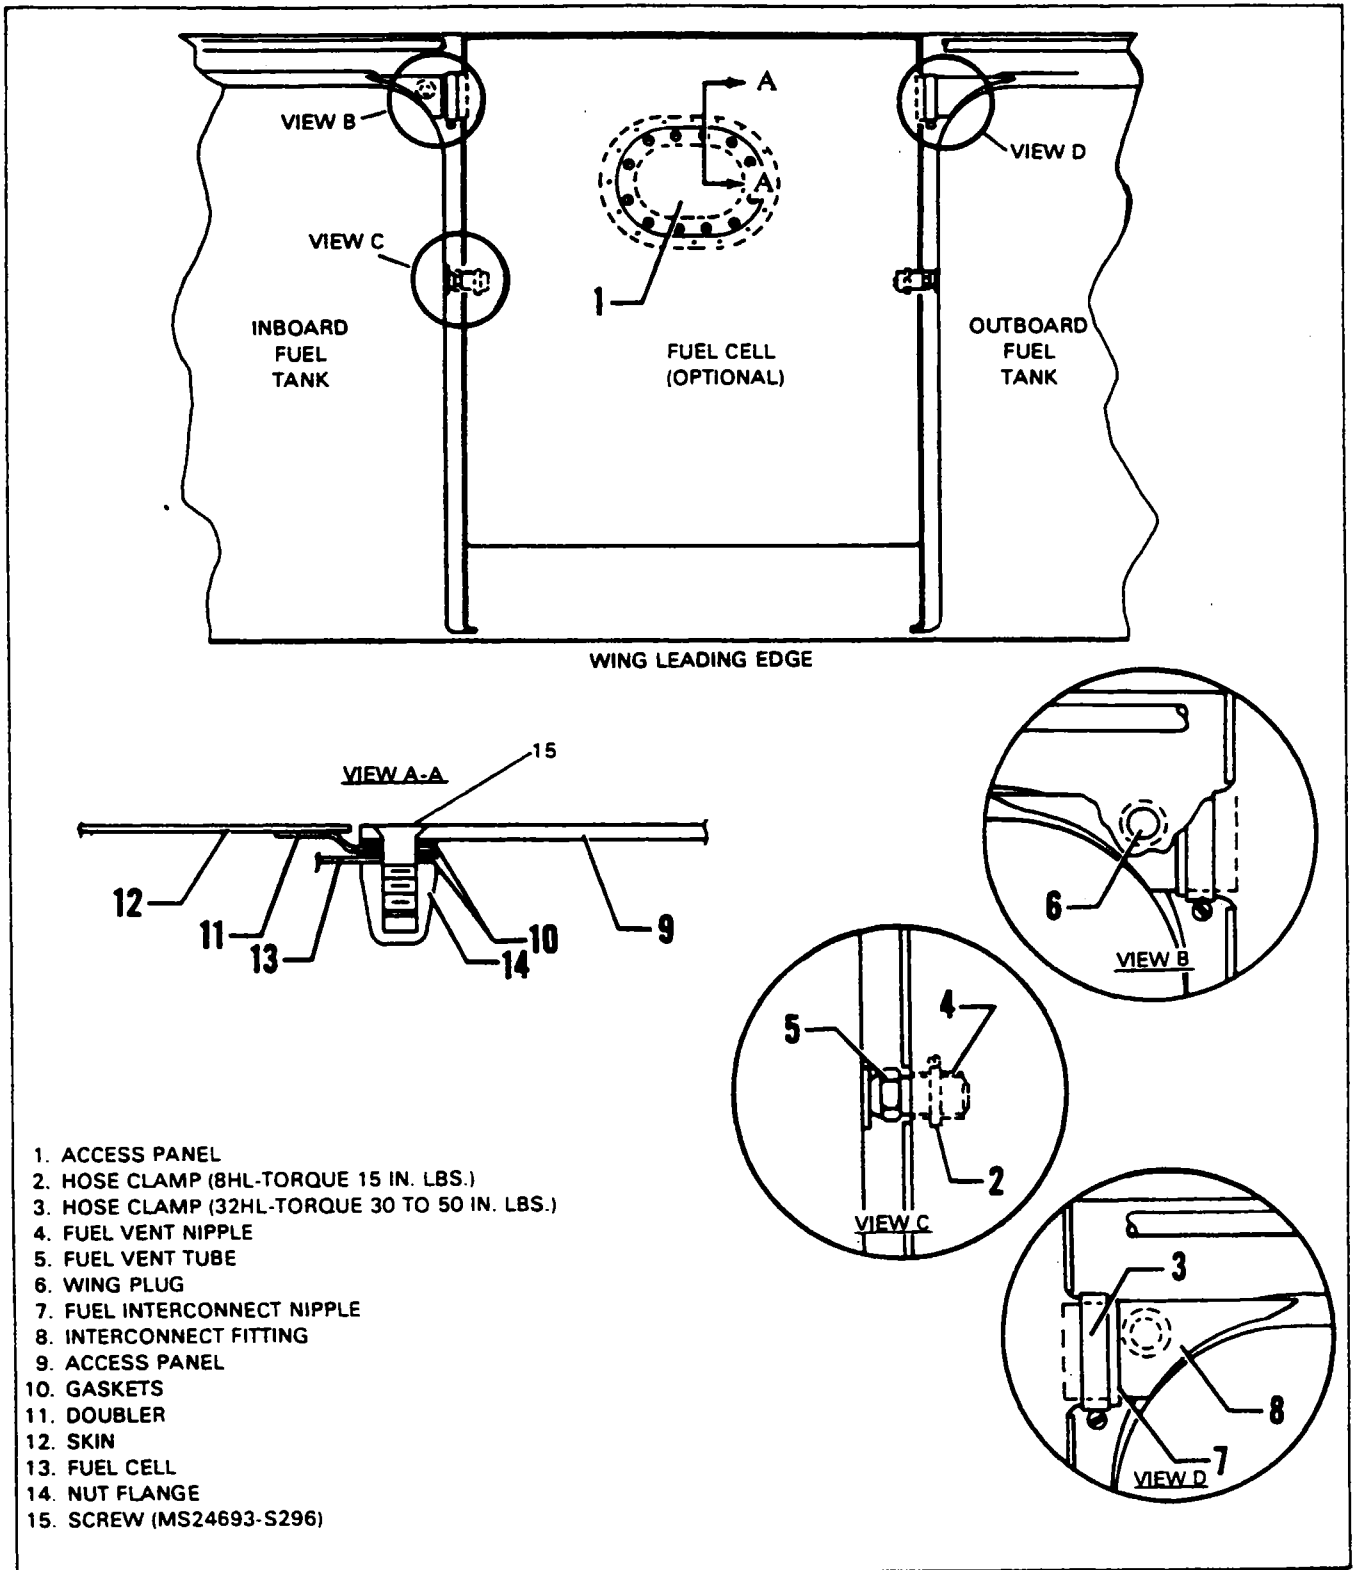

Figure 9-2. Fuel Cell Installation
9-14. REMOVAL OF OPTIONAL FUEL CELL. (Refer to Figure 9-2.)
9-15. INSTALLATION OF OPTIONAL FUEL CELL. (Refer to Figure 9-2.)
- d. Reaching into fuel cell work fuel cell interconnect nipple (7) onto interconnect fitting (8) of inboard and outboard fuel tanks.
- e. Using a common screwdriver and working through plug hole in underside of wing, tighten clamps (3). Torque should be 30 to 35 inch-pounds.
- f. Press fuel cell vent nipple (4) onto fuel tank vent fitting (5) of inboard and outboard fuel tanks. Position clamp on nipple fitting so that when tightened the screw body does not contact top of fuel cell. Torque to 15 inch-pounds.
- h. Position gaskets (10) as shown in Figure 9-2. Place access panel over opening and secure with screws. Torque to 25 in. lbs. per torque valve on fuel cell.
- i. Reinsert wing plugs (6) in openings on underside of wing.